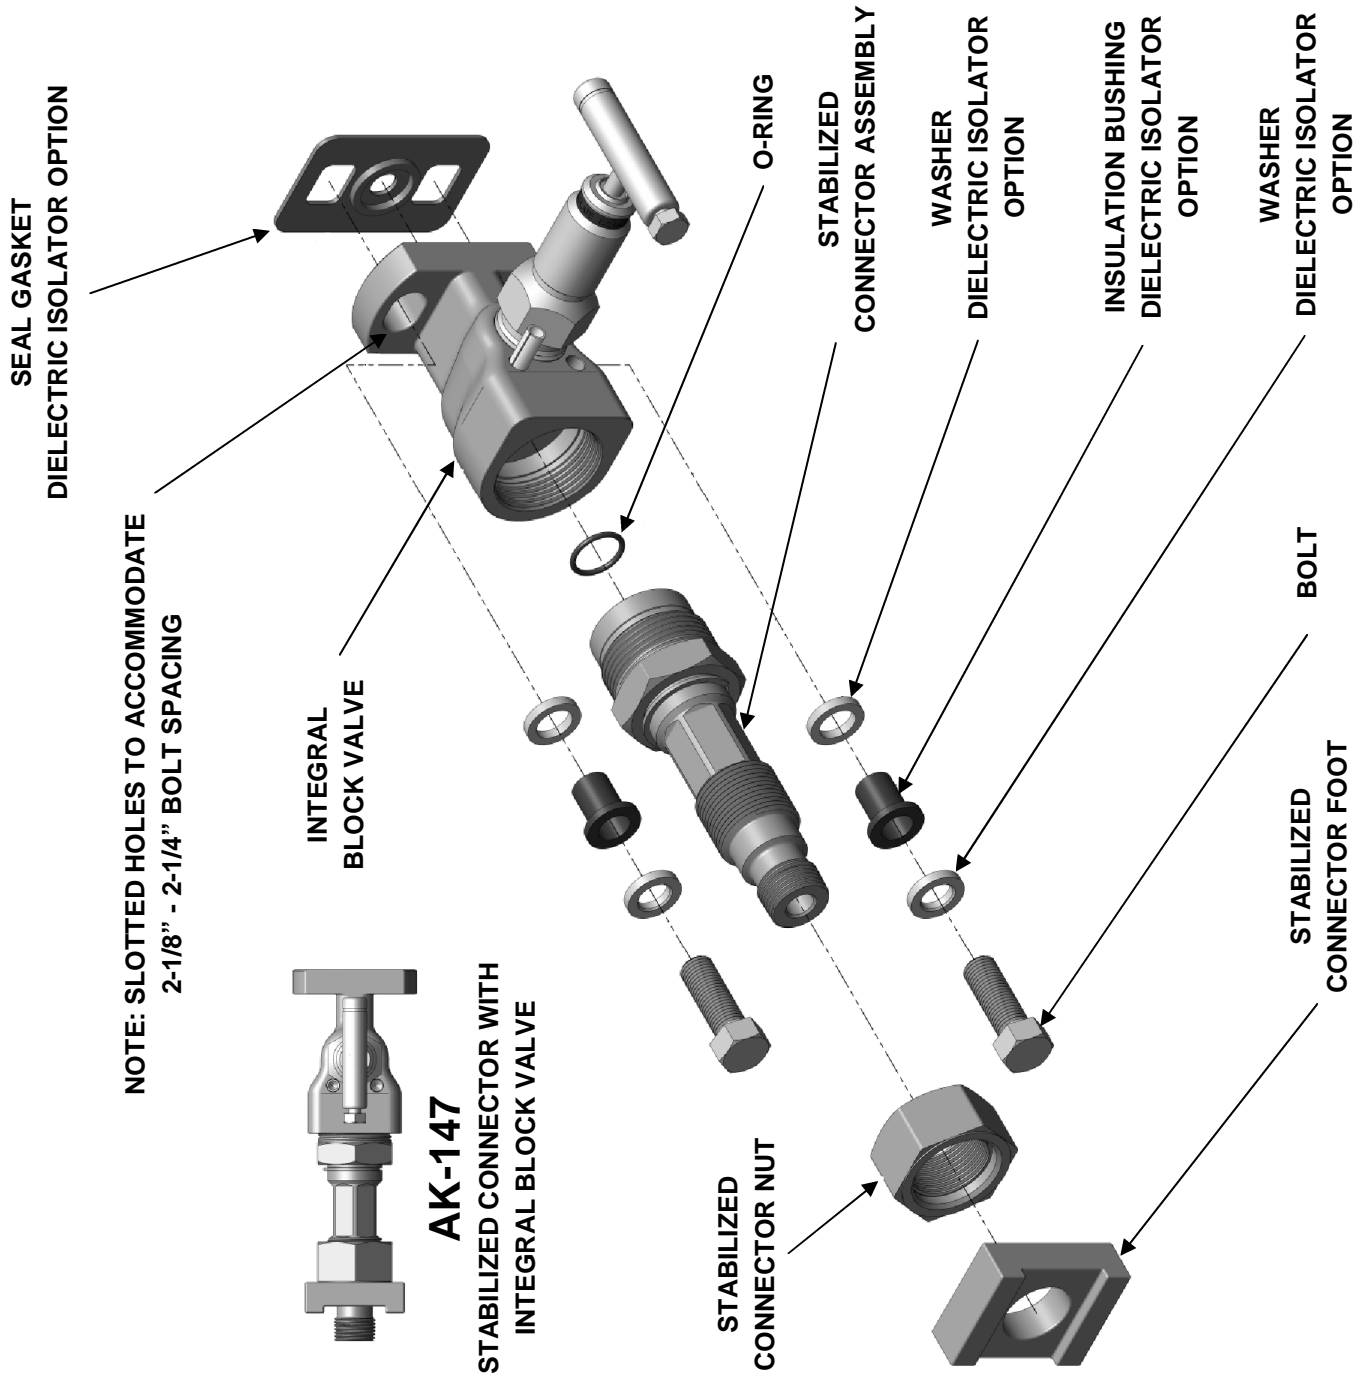

Figure 5
2.2.1 Follow Installation Procedures 2.1.1—2.1.7, and include the dielectric isolator components in the assembly shown below (Figure 5).